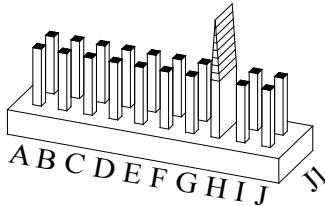

Figure 4: Jumper plug is used to select tap settings which = dBA loudness.
2. Each letter on the Input Terminals as shown below in Figures 4 and 5, corresponds to a plug position of the header located on the printed circuit board. Select voltage and wattage as shown in Table 3.